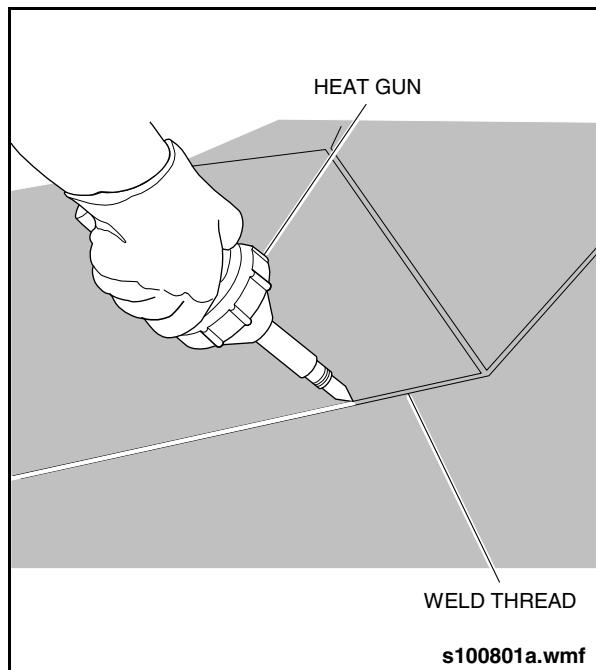

Fig. 12-11: Floor Welding Thread Installation
15. Starting as close as possible to end of seam, press weld rod down into groove with speed welding tip, ensuring toe of tip is parallel to the vinyl surface. See "Fig. 12-11: Floor Welding Thread Installation" on page 19.